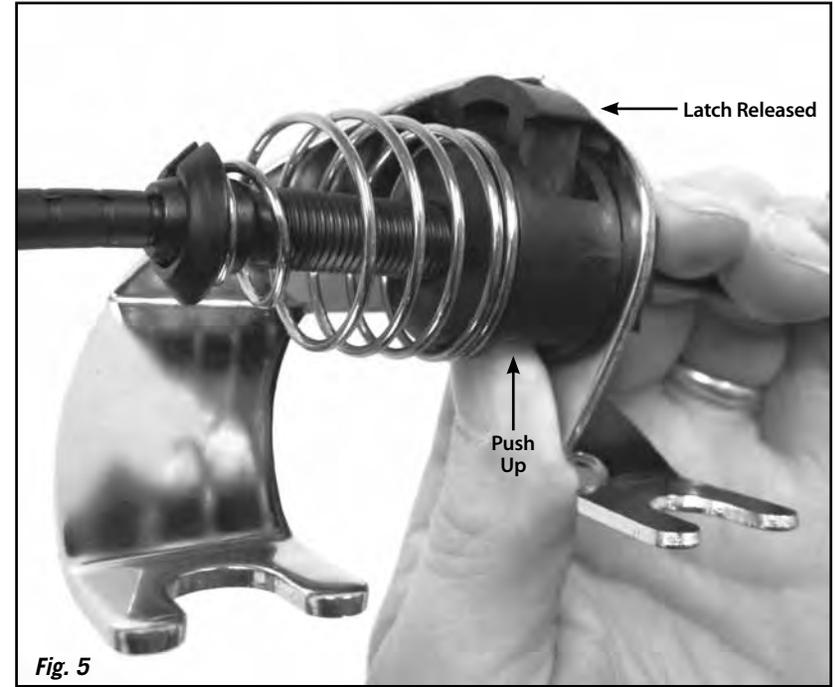

Fig. 5
Step 11: To adjust the cable, release the latch on the black housing by pushing it up from the bottom. **Fig. 5** If you cannot get it to release by hand, you may be able to pry the latch up with a screwdriver. Move the throttle to the wide open position and hold it there. Push the latch back down to lock the cable housing into position. Release the throttle.